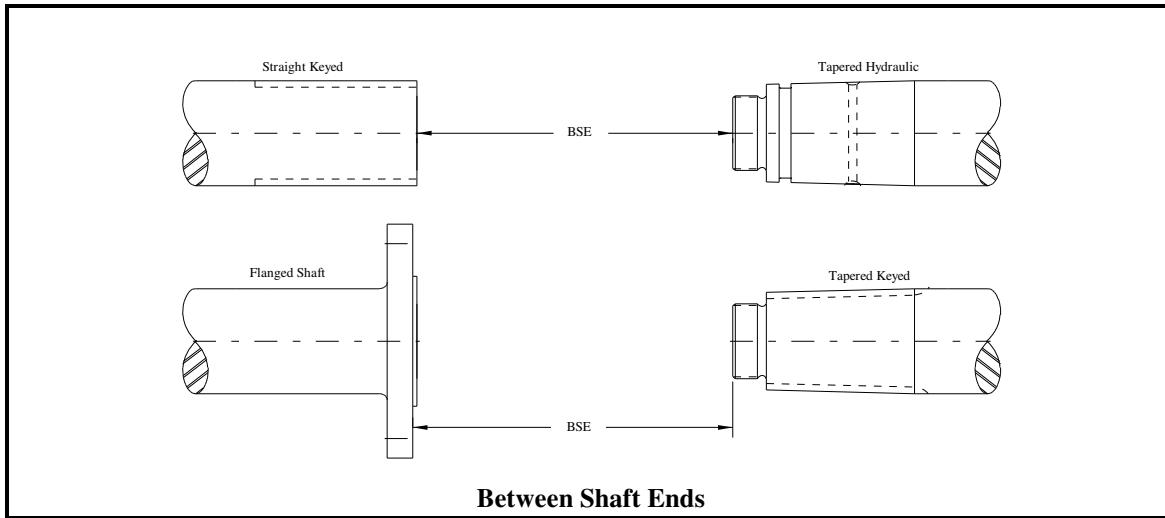

Figure 4-1
4.1.4 Set the distance between the shaft ends (BSE) to the dimension shown on the Ameridrives Sales Drawing. The between shaft end dimension (Figure 4-1) is the distance between the very ends of the drive and driven equipment shafts. In the case of a flanged connection it is the distance to the face at the bolt circle diameter.